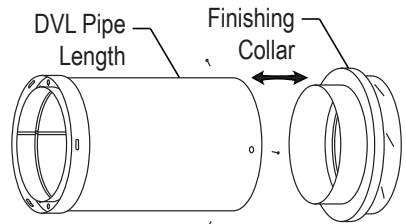

Figure 4
2. **Attaching DVL to a Finishing Collar (Figure 4)**